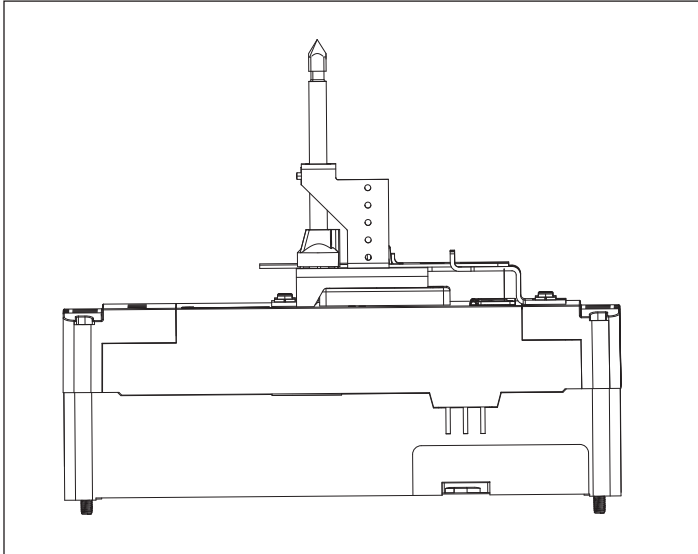

Figure 4. Cutting the Shaft to Length and Collar to Shaft.
2. Mark the shaft, measuring the length beginning at the pointed end, and cut to the correct length (see Figure 4).
3. After the hole is drilled, close the enclosure cover, allowing the shaft to stick through the opening . Check this dimension per Figure 4. If the dimension is not correct, loosen the set screw holding the shaft in the die cast pivot link and adjust such that the dimension is within the required limits . Retighten set screw .